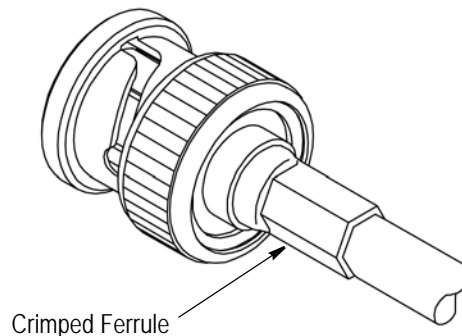

Figure 6
8. The finished plug should be as shown in Figure 6.